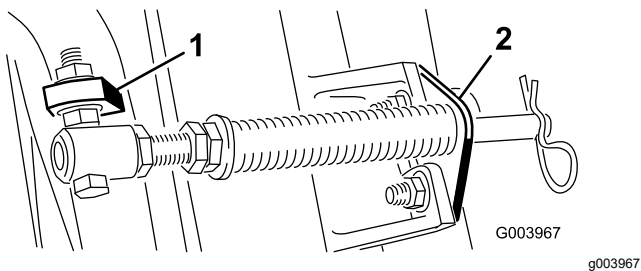
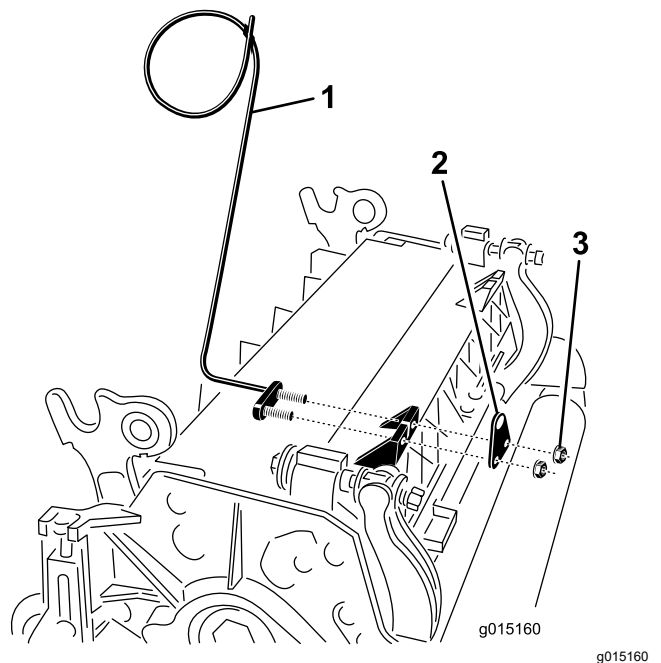

Figure 11
Figure 13
Note: Position the bolt head to the outer side of the tab as shown in Figure 11.
E. Mount the rod bracket to the cutting unit tabs with the carriage bolts and nuts (Figure 11). On the cutting unit, mount the left hose guide to the front of the cutting unit tabs when reinstalling the rod bracket (Figure 13).